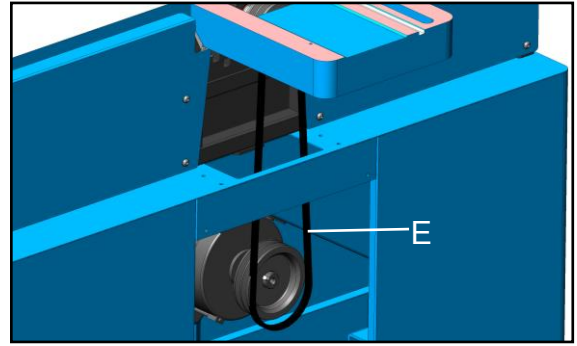

Fig. 27
4. Install new belts (E) on the machine & motor pulleys, Fig. 27